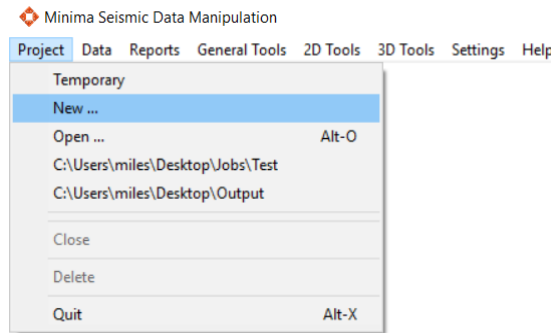
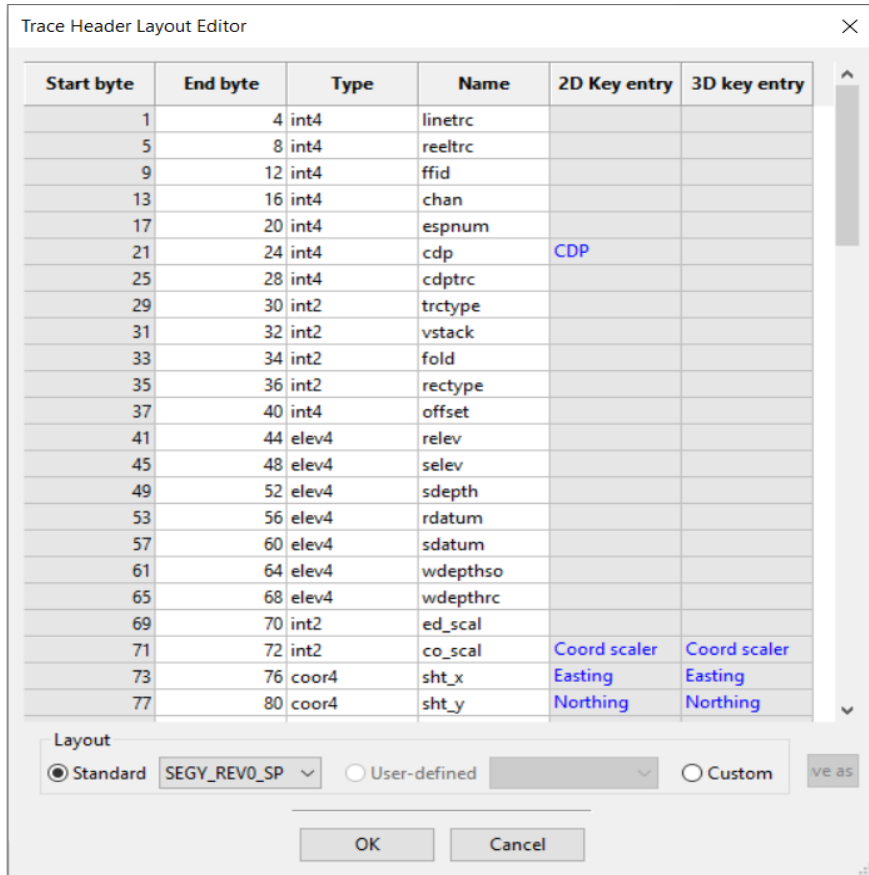

Figure 3-2 Project Menu drop down
Figure 3-3 Trace Header Layout Editor
3. The **trace header layout** editor will popup (Figure 3-3 on the next page) This option only pops up if "Prompt for trace header layout" is ticked within the "User Preferences" on page 53). Change the layout by choosing from *Standard* or *User-defined* layouts. Select **OK** to apply the layout to the selected files. An entry for each SEGY file will be added to the project navigator tree (Figure 3-2).